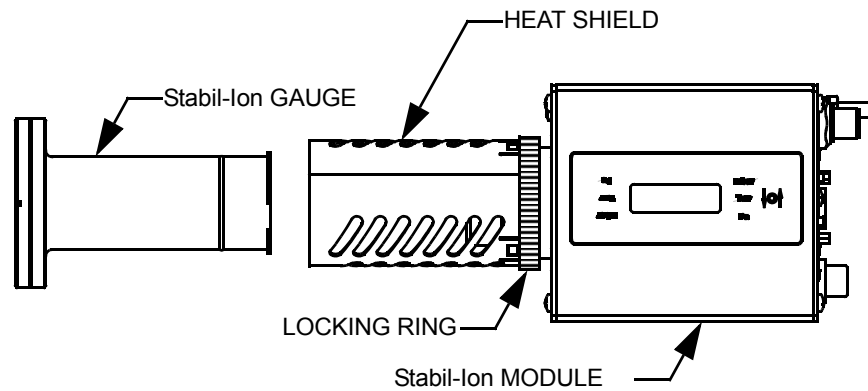

Figure 2-5: Module to Gauge Attachment
When performing the following steps, refer to Figure 2-5.
4. Twist clockwise, by hand, the gauge connector locking ring until the stop on the gauge collar is reached as shown in Figure 2-5. Do NOT over tighten the locking ring.
To remove the Module from the Gauge, follow the following procedure. When performing the following steps, refer to Figure 2-5.
7. While holding the flange, gently pull the 347 Stabil-Ion Module away from the Gauge as shown in Figure 2-5. The Gauge will disconnect from the module.